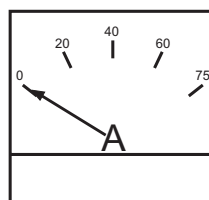

Figure 24. Ammeter (No Load)
12. The ammeter (Figure 24) will indicate zero amps with no load applied. When a load is applied, this meter will indicate the amount of current that the load is drawing from the generator's alternator.